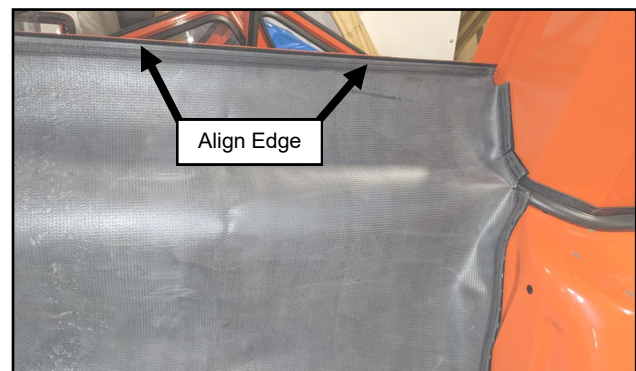

Fig. 19.5 (Secure Filler to Lower Rear Panel)
- 19.5 Align the rear edge of the filler to the top edge of the Lower Rear Panel. See Figure 19.5. Center the filler side to side on the Lower Rear Panel and secure the Velcro to the panel.